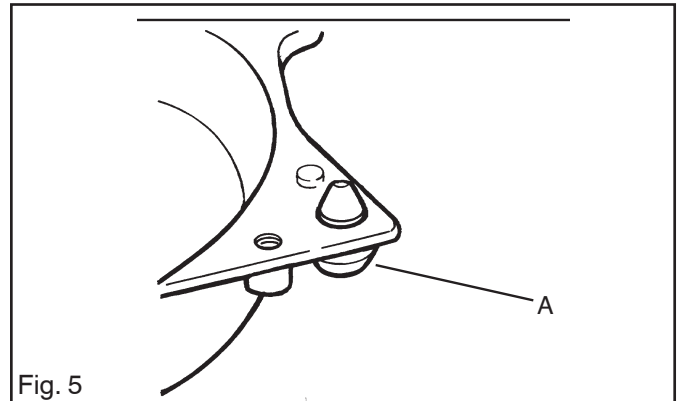

Fig. 5
8. If the crankshaft bearing should remain on the crankshaft remove it with puller (Refer to pos. 4 "3 Service tools" on page 8)
- B. Rubber stop (A). See fig. 5.
- D. Fit the rubber stop (A). See fig. 5.